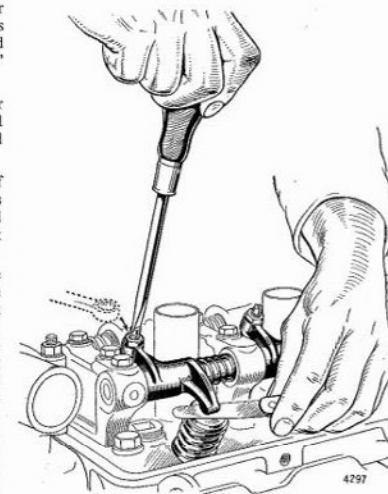

Fig. B.73. Valve clearance adjustment
- (c) To check the valve clearances, insert a feeler gauge between the valve stem and the rocker foot (see Fig. B.73). Correct clearances with the **engine hot** are: